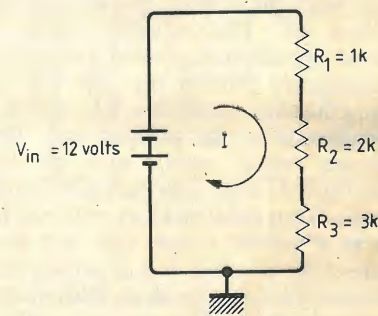

Fig. 1. Voltage divider consists of a voltage source and series resistors. (Positive current notation is used in this article.)
Perhaps the simplest shortcut is based on the voltage and current divider effect. The voltage divider effect allows one to calculate the voltage or IR drop across any resistor in a series circuit without first finding the current. For example, the IR drops across R_1 in Fig. 1, is obtained using the expression
- Question 1. What is the voltage across R_2 in Fig. 1, using the voltage divider principle?
- Question 2. What is the voltage across R_3 in Fig. 1?